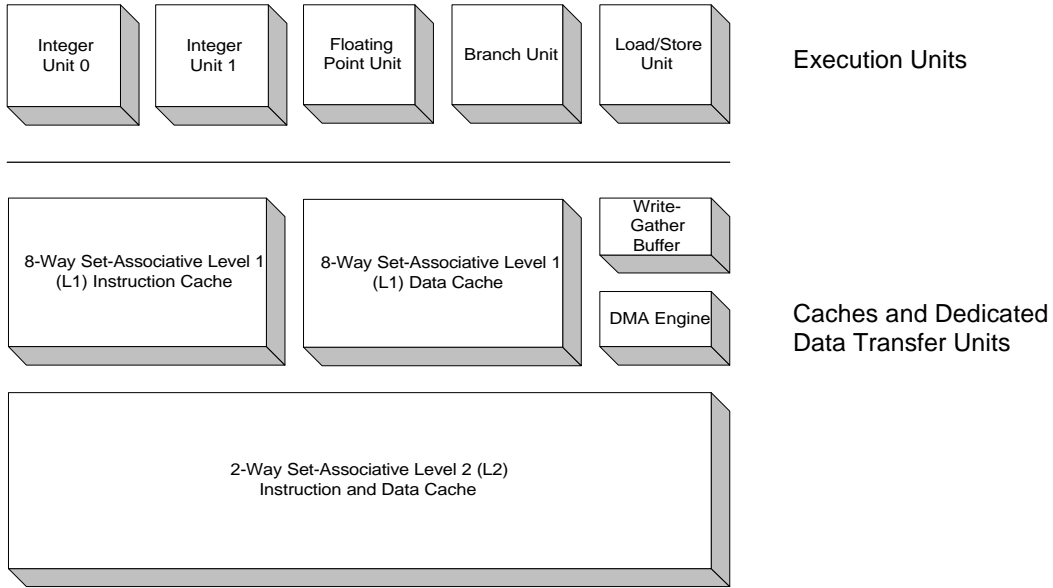

Figure 2 CPU functional blocks
- Figure 2 CPU functional blocks5